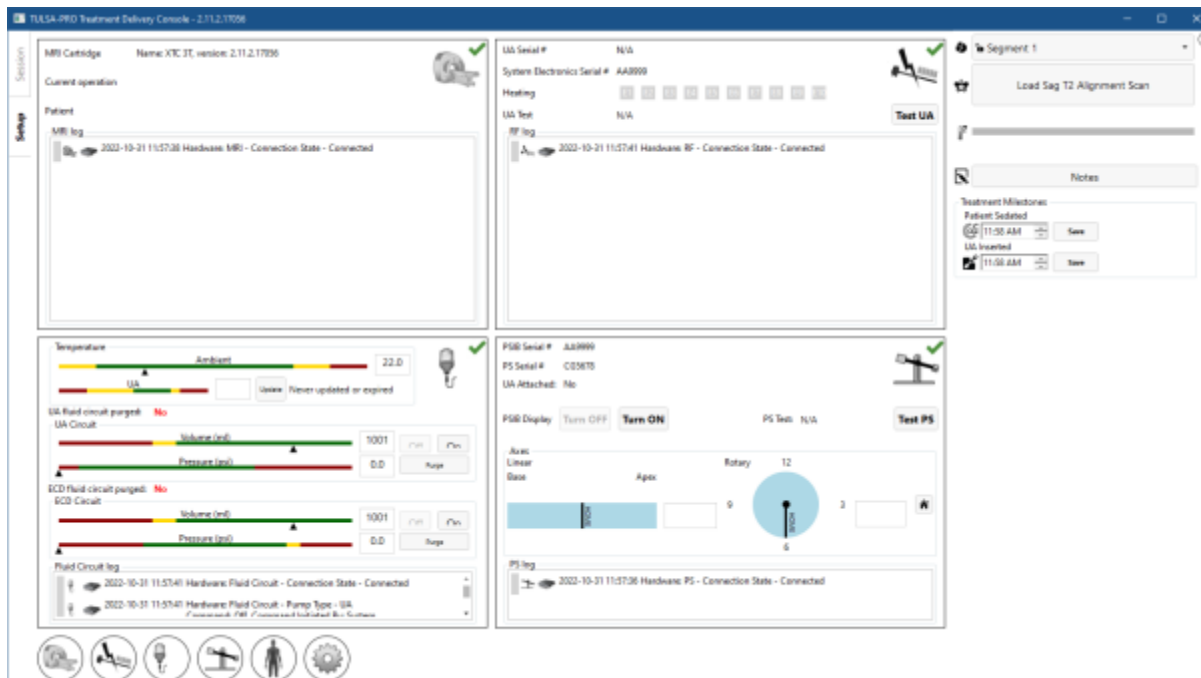

Figure 6: Setup workspace of the TDC software
2. After selecting **New Session**, you will enter the **Setup** Workspace (*Figure 6*) where you can ensure all equipment is functioning properly before proceeding. A green checkmark will appear in the MRI quadrant of the Setup Workspace if the TDC